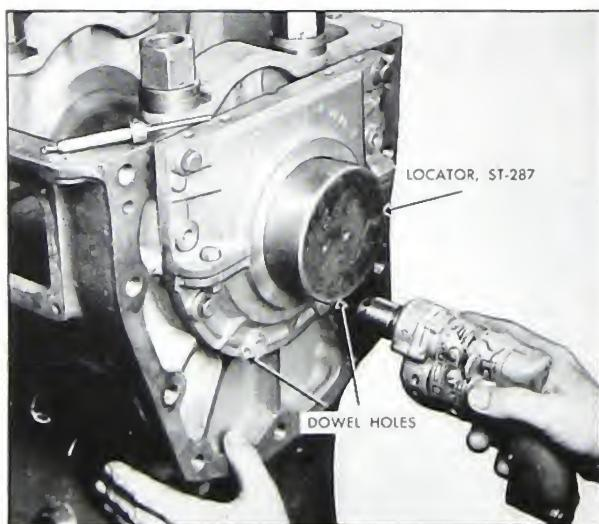

Fig. 2-44. Dowelling rear cover plate to block
5. Drill and ream two dowel holes in upper plate to smallest permissible size. New blocks have $3/16"$ dowels, but if redowelled, it will be necessary to increase size by $1/64"$ over last dowels installed. See Fig. 2-44.